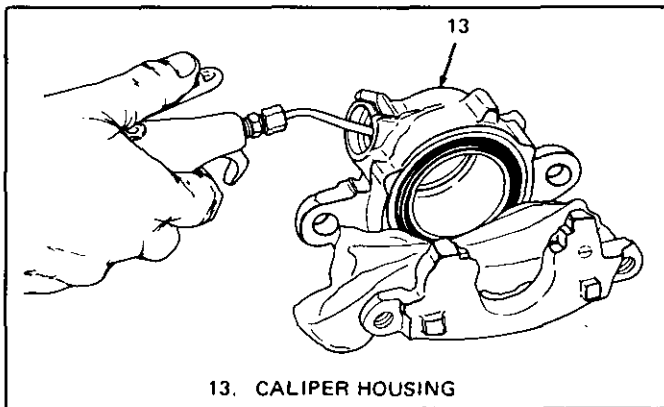

Figure 12 Removing Piston
1. Piston (10) as shown in Figure 12 using compressed air into the caliper inlet hole